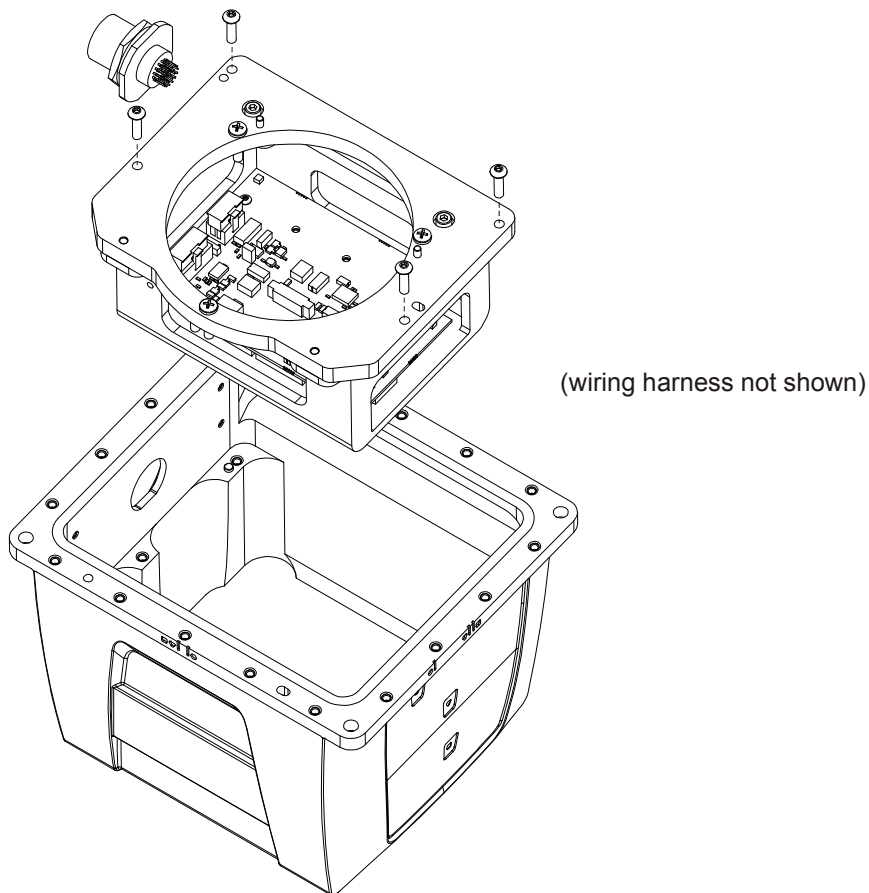

Figure 46: Remove IMU Mounting Plate and Bracket
3. Using a 2.5 mm hex bit, unscrew the M4 screws and remove the IMU mounting plate, bracket and cable harness, as shown in *Figure 46*: